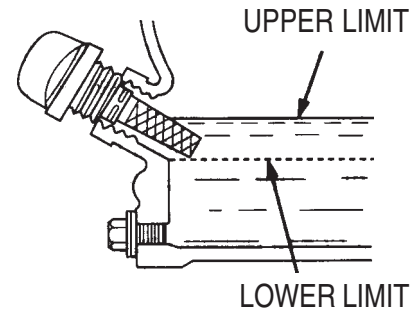

Figure 6. Engine Oil Dipstick (Oil Level)
4. If the oil level is low (Figure 6), fill to the edge of the oil filler hole with the recommended oil type (Table 3).